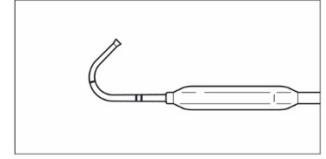

Figure 9: Maxillary Bend
- **Maxillary Sinuses:** When treating the maxillary ostia/ethmoid infundibula, a bend of approximately 120 - 135° (Figure 9) is recommended to gain access to the natural maxillary ostium. Use the included Bending Tool to achieve this geometry.